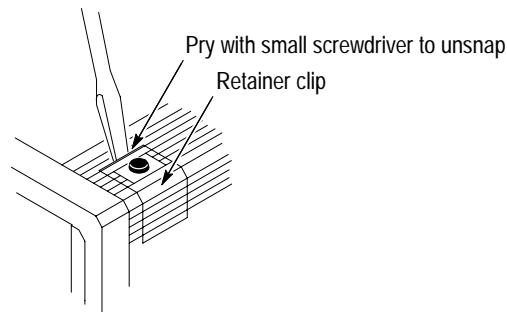

Figure 6-3: Retainer clips
2. Use a small flat-blade screwdriver to unsnap the four retainer clips on the bottom cover that have the rubber feet. See Figure 6-3.